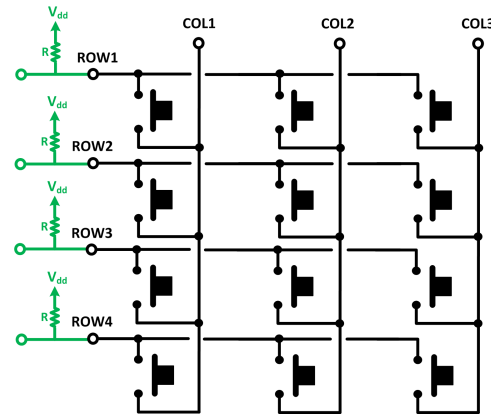

Figure 5: Electronic circuit of a 4×3 keyboard. The green part represents the resistive pull-ups inputs of the PSoC board.
- Figure 5 shows the electronic circuit of a matrix keyboard. Moreover, functions allowing you to read the pressed key are provided (`keypad.c` and `keypad.h` files). For these functions to work, the inputs ROW0, ROW1, ROW2 and ROW3 must be configured as “Resistive pull-up”, effectively adding the green components in Figure 5 to the circuit. When the key is effectively pressed, the function `keypadScan()` returns the corresponding character ('0' to '9', '*' or '#'). Otherwise, it returns the value 'z'. Using the electronic circuit of the matrix keyboard and the code provided, understand how this matrix keyboard works.